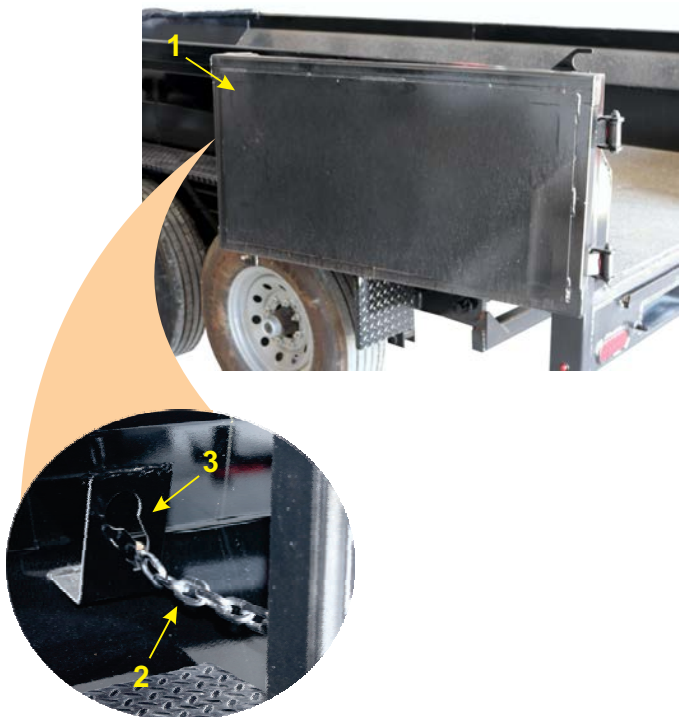

Figure 3-25 – Trailer Gates Opened and Secured in Open Position
2. Open both of the tailgates (1, Figure 3-25) and using the lock chains (2, Figure 3-25), secure in the open position.